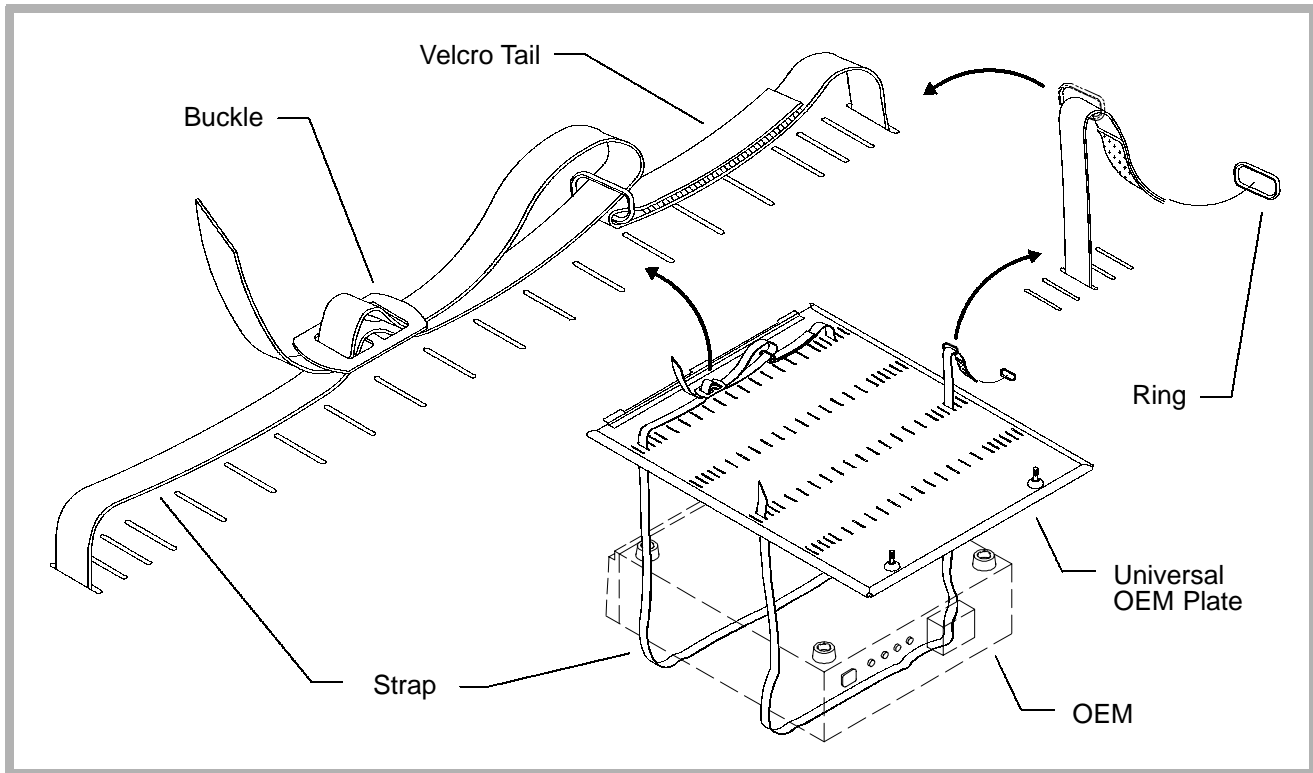

Figure 10-2. Internal OEM Installation
□ □ To install an Internal OEM (**Figure 10-2**):